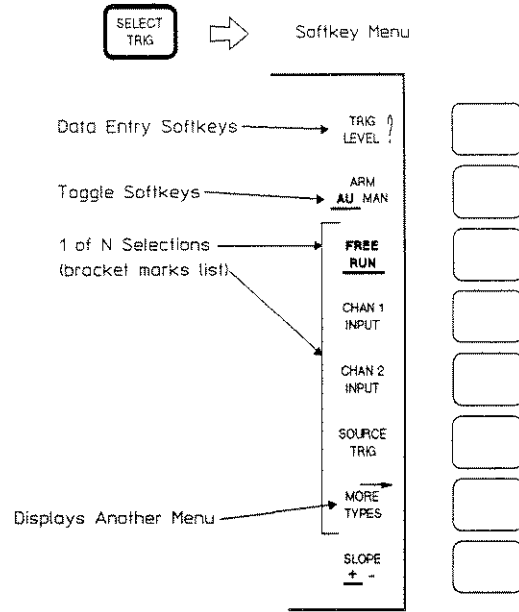
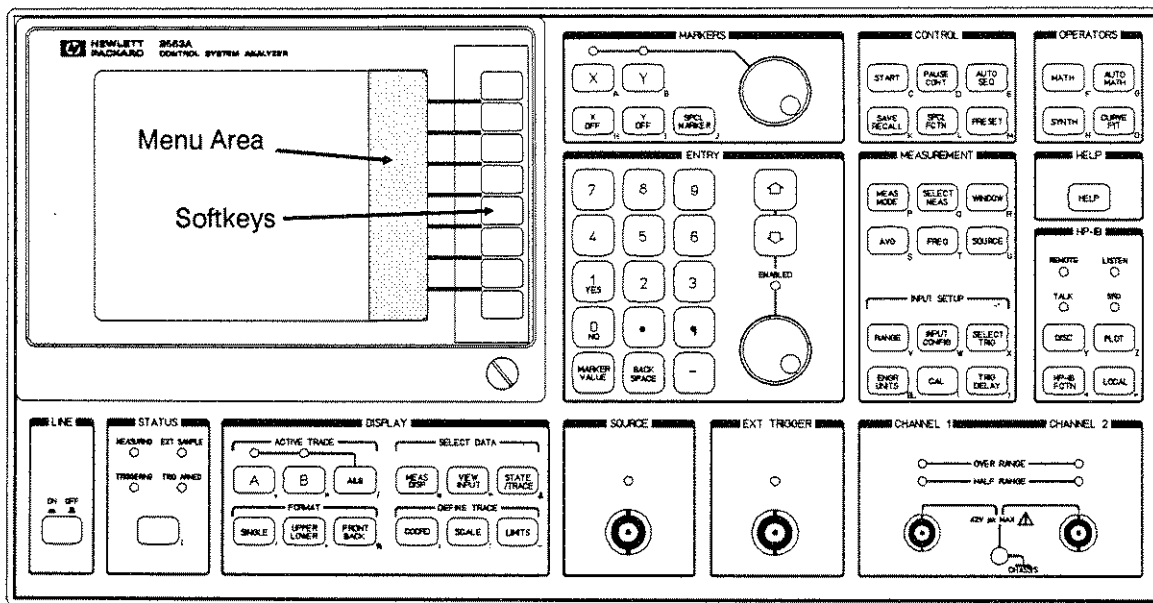

Figure 1-1. Softkey Example: Select Trigger Menu
Figure 1-2. HP 3563A Front Panel Connection
**Softkeys** are the eight keys aligned in a vertical column at the right side of the analyzer's screen (see figure 1-2). The function of these keys changes as you press other hardkeys or, in some cases, other softkeys. A softkey's current function is indicated by a video label to the left of the softkey (on the edge of the analyzer's screen). Softkeys perform several functions, as shown in figure 1-1. In some cases, two or more softkeys may be grouped by a left-bracket into a 1-of-N selection. In this case, only one softkey in the group can be active at any time (the active softkey appears highlighted and underlined). In other cases, a softkey may be a toggle softkey — its label contains two or more choices. An example of this is the **SLOPE + –** softkey. You press this softkey to toggle between a positive or negative slope (the active choice appears highlighted and underlined).
**Softkey Menu or Menu** refers to the list of video labels next to the softkeys (see figure 1-2).
**Menu Diagram** shows all softkeys available under a hardkey (for an example, see appendix C which contains menu diagrams for all hardkeys). Default selections are underlined and shown in **bold** type (for example, figure 1-1 shows that **FREE RUN** is the default trigger type).